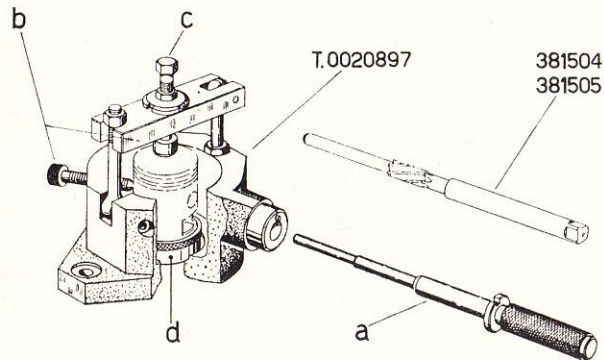

Fig. 93.
Bore out the gudgeon pin housing on the piston by means of tool T. 0020897 and reamers 381504 and 381505 (Fig. 93) when an o/size gudgeon pin is to be assembled (see below).
- (a) Fix part T. 0020897/27 ("d" on Fig. 93) in its housing on the base of the tool, and secure the piston thereon.